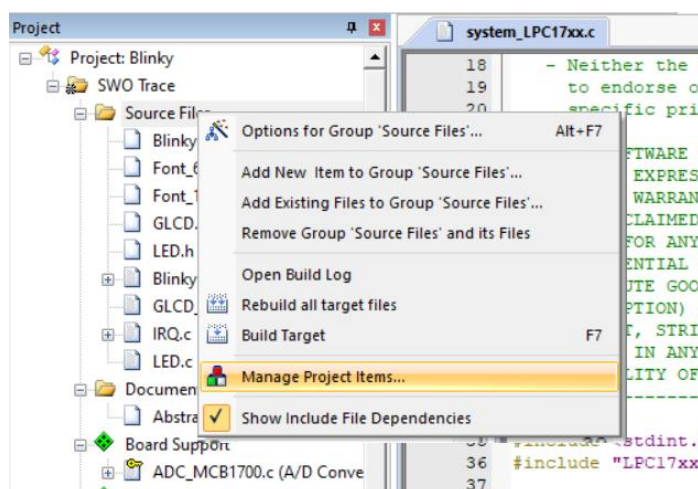

Fig. 10: Importing all .c and .h files to uVision
13. Click "Add" and then "Close". All the files selected should now be displayed in the Project workspace under the "Source Files" folder tree, resembling that of Figure 10.